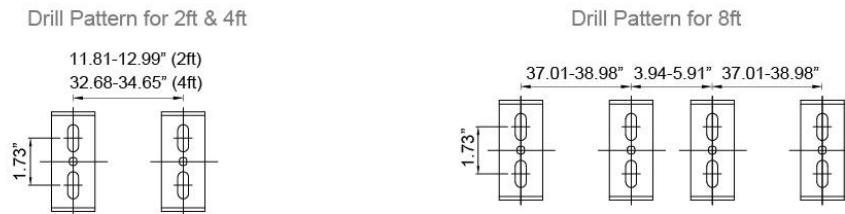

Figure 1
2. Use appropriate mounting hardware (not supplied) to secure the Mounting Brackets to mounting surface (2 for 2ft & 4ft and 4 for 8ft) based on the drill patterns. See Figure 1.